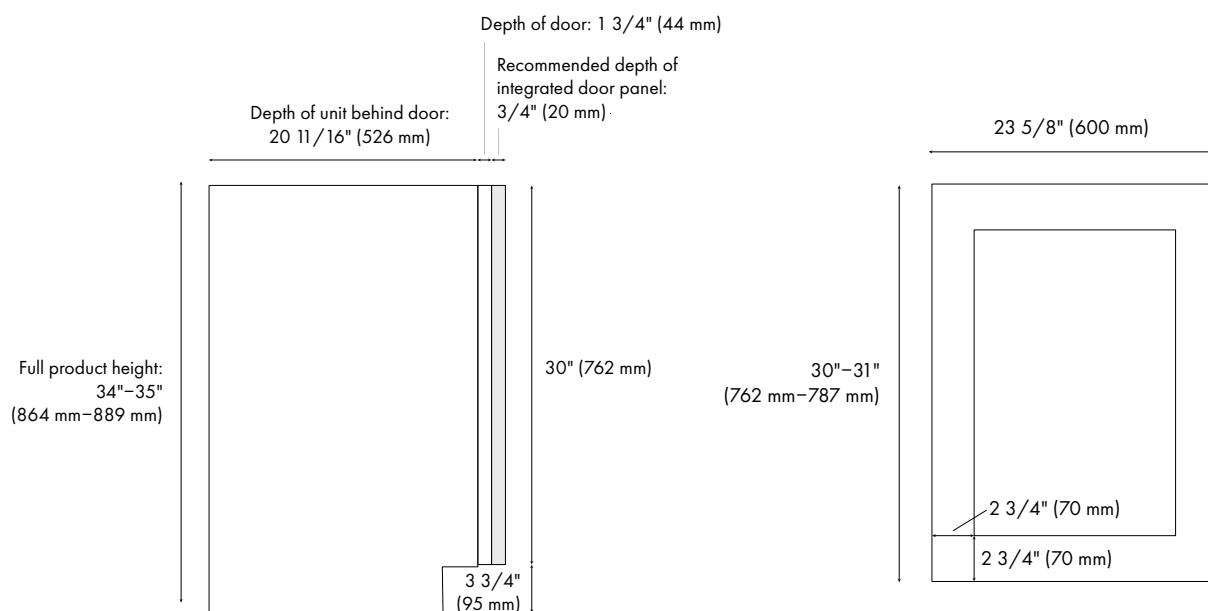

Figure 1
- Figure 1 is a side view of the unit, showing how the panel (in gray) fits over the panel-ready door. A panel depth of no more than 3/4" (19 mm) is recommended.